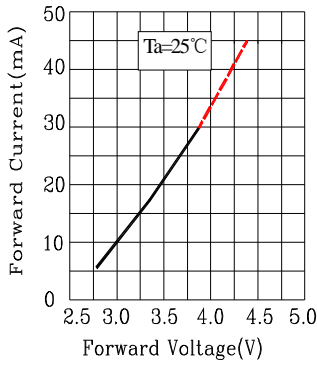

Fig.1 Forward Current vs. Forward Voltage
**I Typical Electro-Optical Characteristics Curves****Fig.1 Relative Intensity vs. Wavelength**